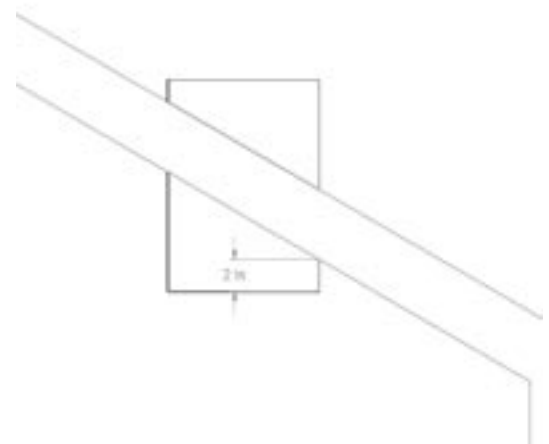

Figure 19
6. Run the Support Box through the roof, and place it so that the bottom of the Support Box protrudes at least 2 in (5 cm) below the finished ceiling. Align the Support Box vertically and horizontally with a level. Temporarily tack the Support Box in place through the inside walls and into the roof sheathing. See Figure 19.